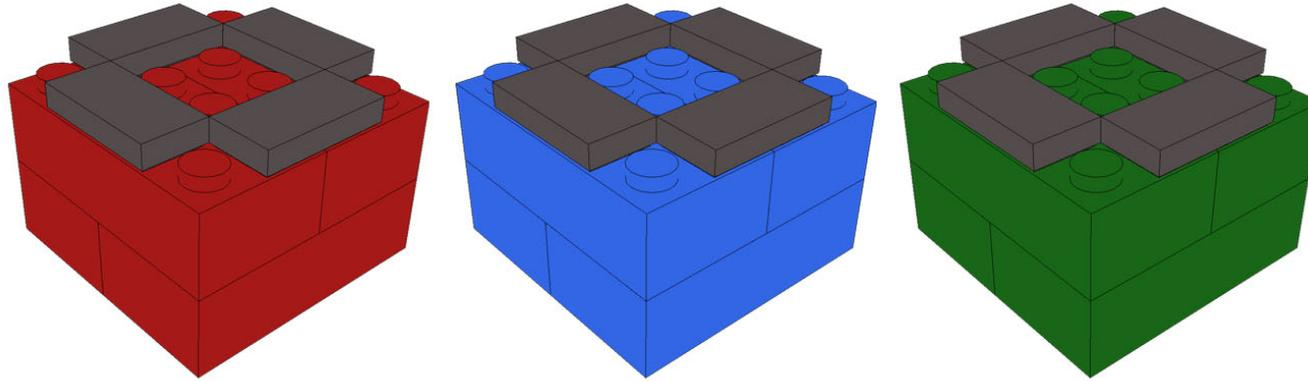

Figure 1. Color Objects (4×4×2 brick made out of 2×4 LEGO bricks with 1×2 tiles on top).
6. The width of the black line in the playing field area is 20 mm  $\pm$  1 mm. Color objects are made of 4×4×2 brick made out of 2x4 LEGO bricks with 1x2 tiles on top (see Figure 1).